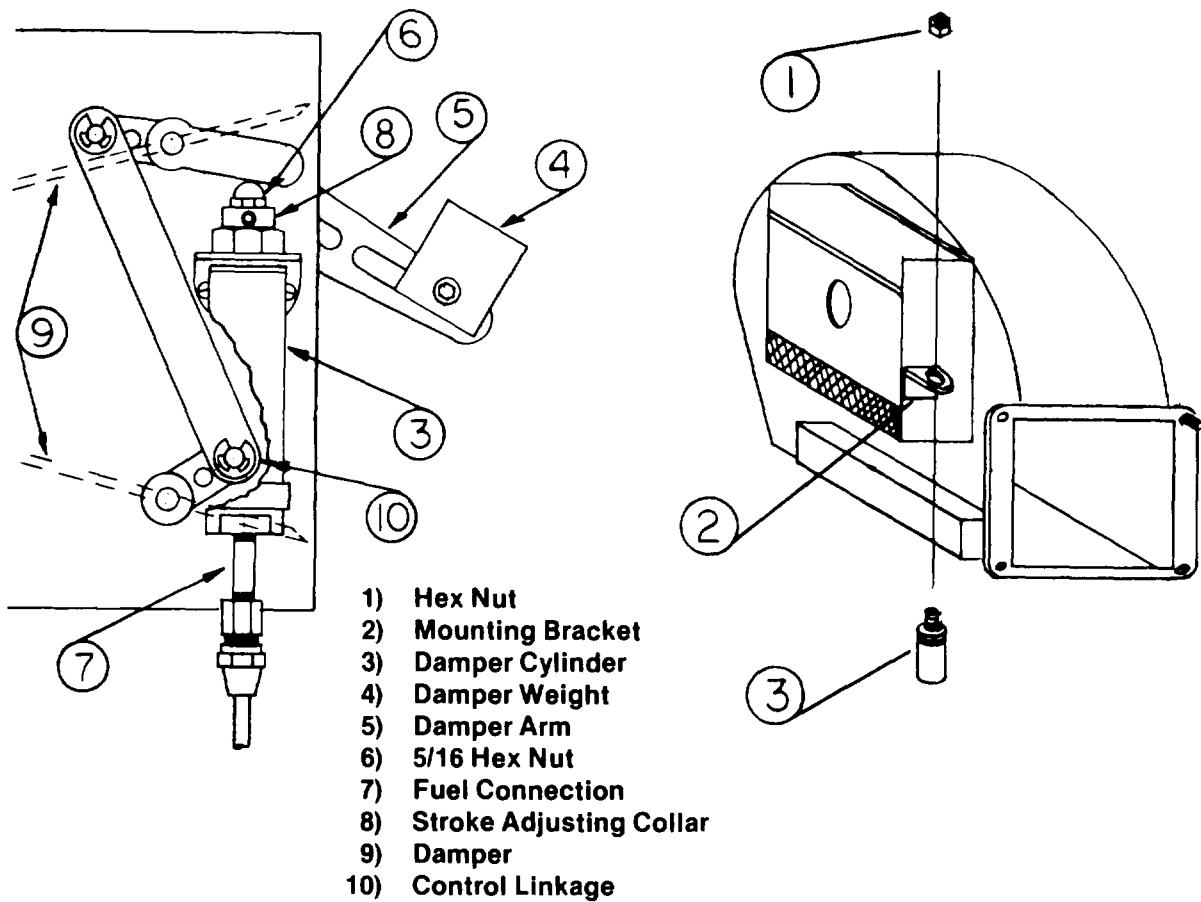

Figure 46. DAMPER CYLINDER MOUNTING
- d. Air Damper Positioning. Position the air damper (Fig. 46) to the control linkage in such a manner that in the open position, the lower end of the control linkage will be nearest the blower housing.
- b. Removal. Refer to Fig. 46.